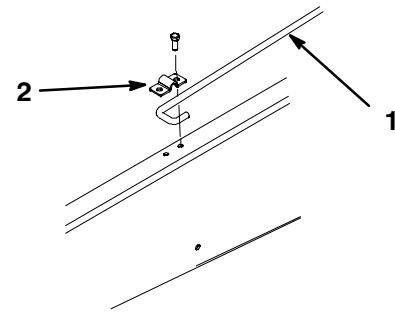

Figure 10
5. Have a helper raise the cargo box until the "J" hook end of the prop rod is positioned between the (2) holes on the left frame rail (Fig. 10).
6. Secure the prop rod to the frame rail with the prop rod clip and (2) 5/16 x 3/4" capscrews (Fig. 10).